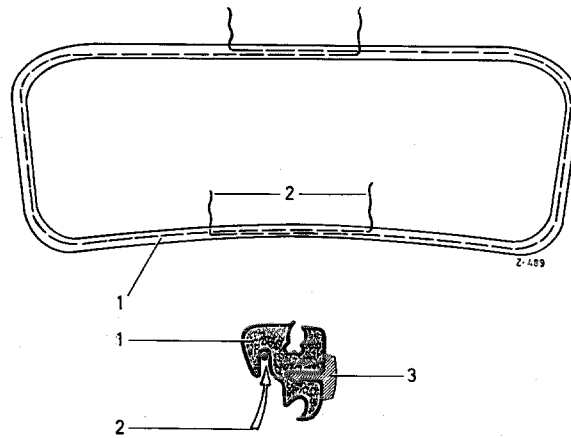

Fig. 67 — 2/2
8. Turn the windshield over and install an enameled cable (2) or a greased cord in the retaining groove of the rubber molding and rub the rubber molding lightly with glycerine or tallow (Fig. 67 — 2/2).